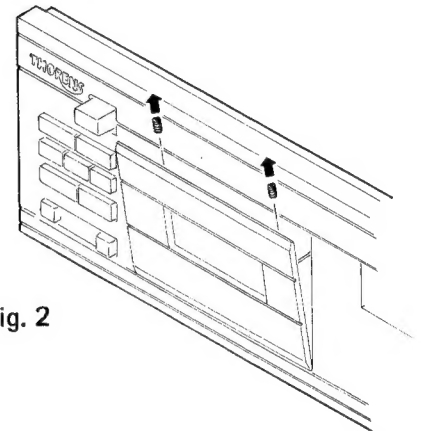

Fig. 2
- c) Loosen the two screws on the cover front of the cassette compartment and remove the front (Fig. 2).